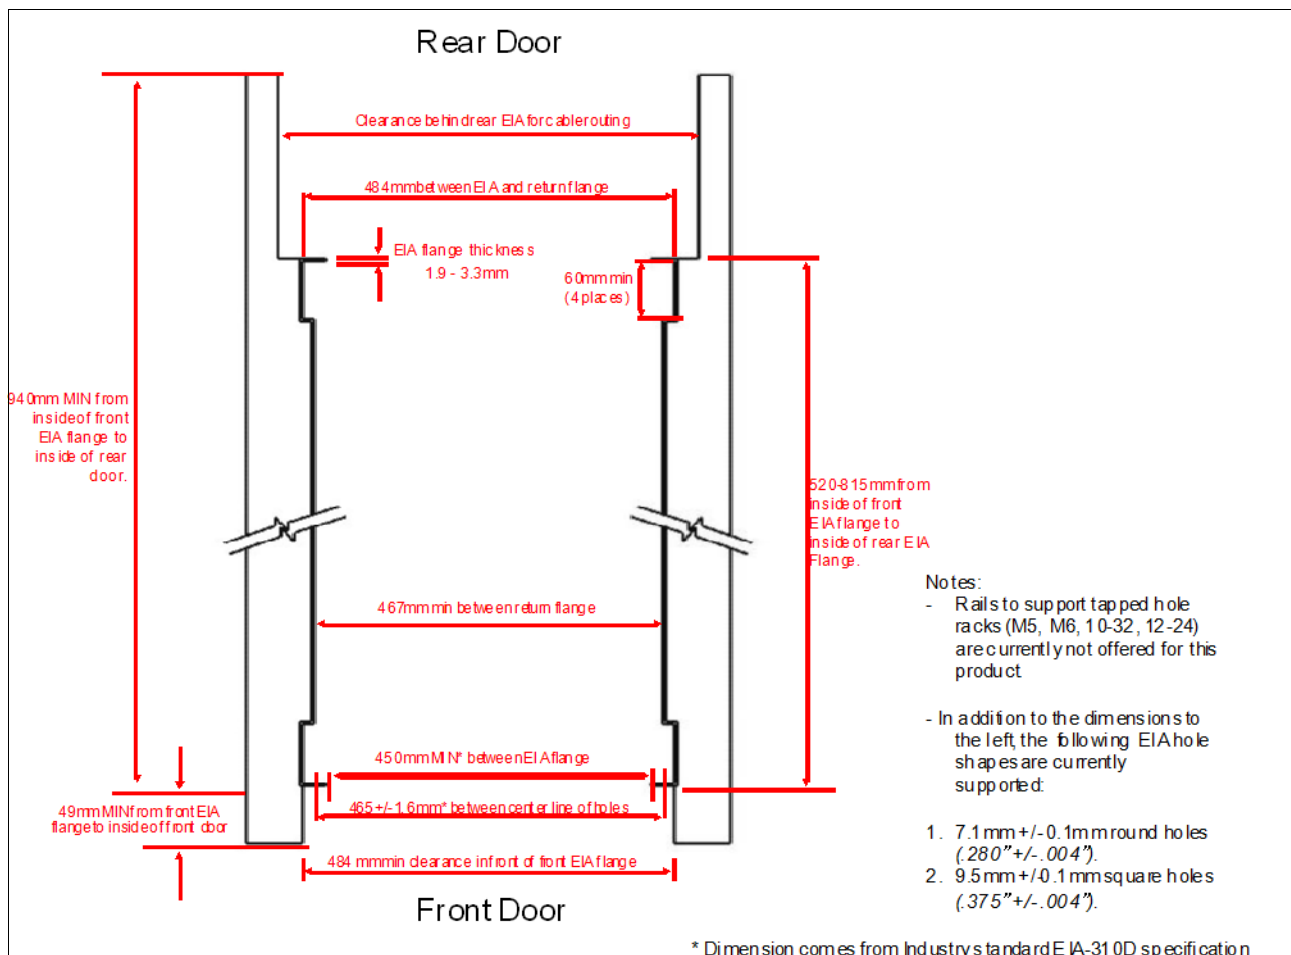

Figure 1-12 Top view of rack specification dimensions (not specific to IBM)
- ▶ The front rack opening must be 451 mm wide ± 0.75 mm (17.75 in. ± 0.03 in.), and the rail-mounting holes must be 465 mm ± 0.8 mm (18.3 in. ± 0.03 in.) apart on-center (the horizontal width between the vertical columns of the holes on the two front-mounting flanges and on the two rear-mounting flanges). Figure 1-12 is a top view showing the specification dimensions.